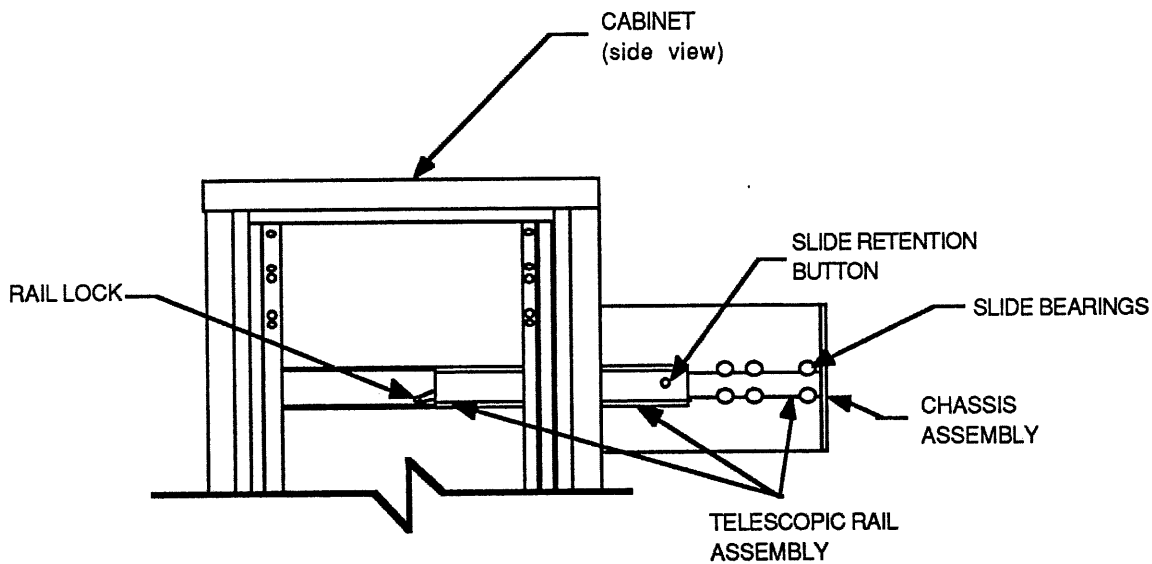

Figure 6.4.2.1 *Telescopic Rails*
- 3) Pull out the 6U chassis until it is in the extended locked position. See Figure 6.4.2.1.